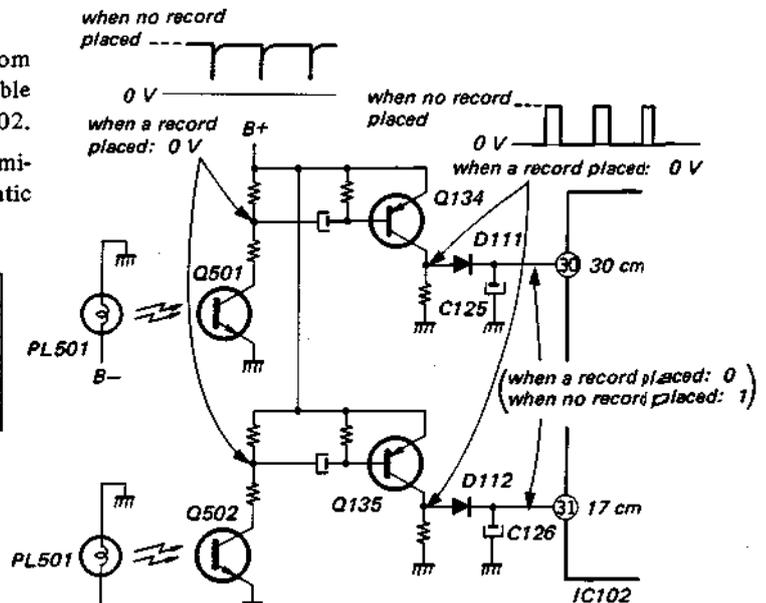

Fig. 4
**4. Automatic Disk Size Detector (see Fig. 4):**